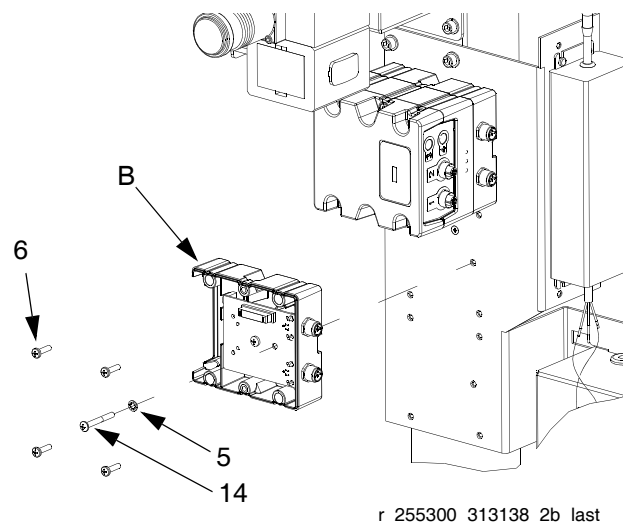

FIG. 3: Mount Base on Mounting Bracket
6. Install the grounding screw (14) through the washer (5) and tighten so that the grounding screw (14) threads into the mounting bracket. See FIG. 3.